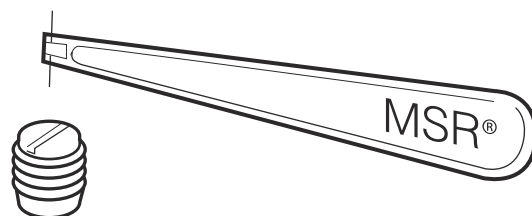

Figure 14-19. Clear the Jet Orifice.
- Clear the jet orifice with the jet cleaning wire (see fig. 14-19).